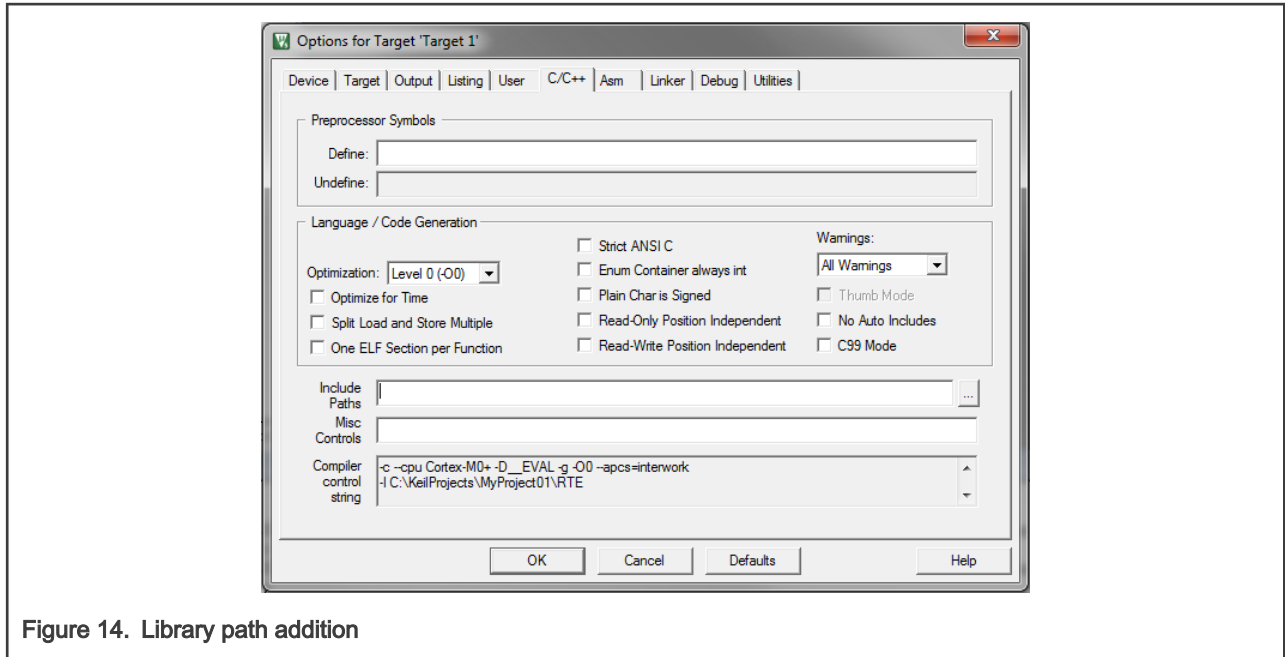

Figure 14. Library path addition
2. Select the C/C++ tab. See Figure 14.